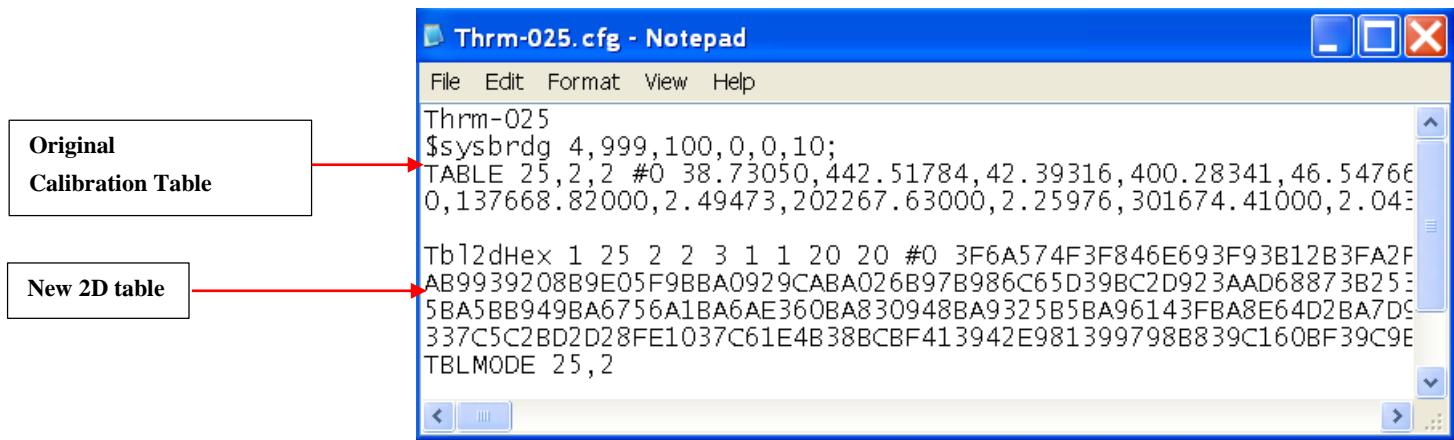

Figure 13: Updated ACMS thermometer Configuration file with new MR Calibrated 2D table
2. Copy the 2D table from the configuration file and paste in the ACMS Therm-XXX.cfg file (<\\QdPpms\ACMS\Calibration>) under the original thermometer calibration table. Ensure to also include the command: TBLMODE 25,2 when copying the table over to the thermometer configuration file. (Figure 13)